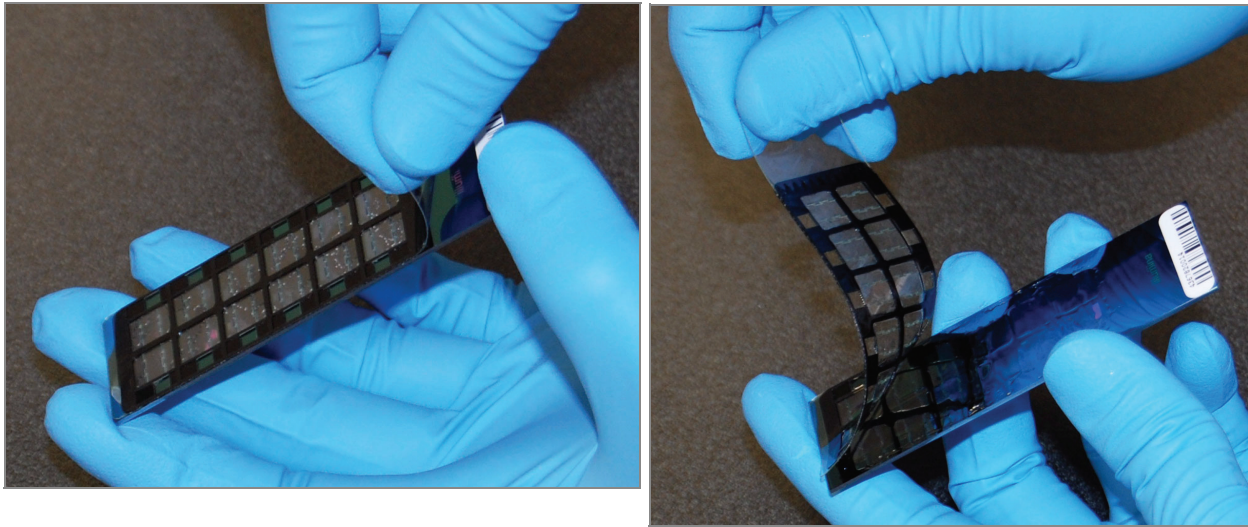

Figure 52 Removing the IntelliHyb Seal
4. Remove the IntelliHyb Seal from each BeadChip (Figure 52):